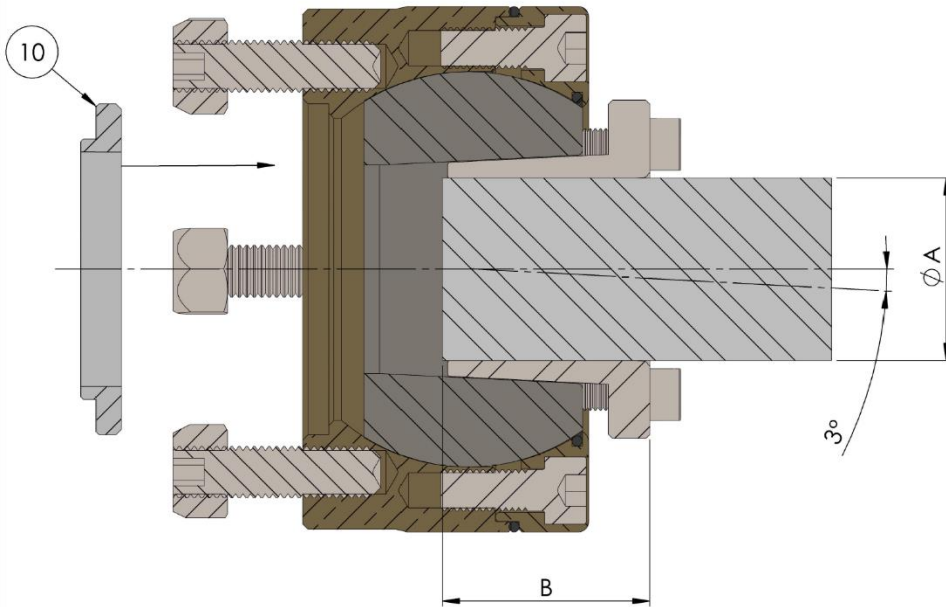

Fig 2. SigmaDrive angle drawing (Generic drawing for illustrative purposes only)
- Insert the M10 high tensile studs (11) into the corresponding tapped holes to match the gearbox output flange. Lock the studs using the two narrow M10 lock nuts (14) and the loctite **290** supplied. Remove and discard the two narrow M10 lock nuts (14) after fitting.
- Ensure the output flange register (10) is inserted into the SigmaDrive unit prior to fitting to the gearbox flange. This will ensure the SigmaDrive is centered on the gearbox and should be a snug fit. See Fig 2.
- Please apply a light oil film on the outer surface of the taper lock (7), making sure that the surface between the taper and central sphere (3) is clean and well lubricated. Use WD-40 or hydraulic oil, this will aid removal. Please do not use oil with molybdenum disulfide, high pressure additives or graphite grease on either the shaft or taper lock. These substances notably reduce the friction coefficient for the clamp unit. Do not apply any lubricant between the shaft and the inside of the taper lock (7) surfaces.**
- Carefully slide the clamping unit (7) onto the propeller shaft to the minimum depth indicated in table 2 (See Fig 2 for diagram). Maximum shaft insertion depth is 60mm.